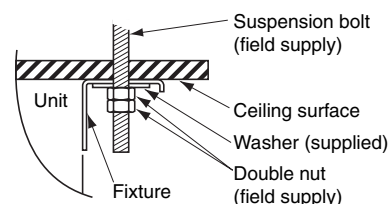
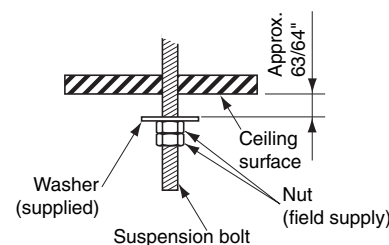

Fig. 3-137
Fig. 3-139
- (6) Carry out the preparation for suspending the indoor unit. The suspension method varies depending on whether there is a suspended ceiling or not. (Figs. 3-137 and 3-138)
- (7) Suspend the indoor unit as follows:
- a) Mount 1 washer and 2 hexagonal nuts on each suspension bolt as shown in Fig. 3-139.